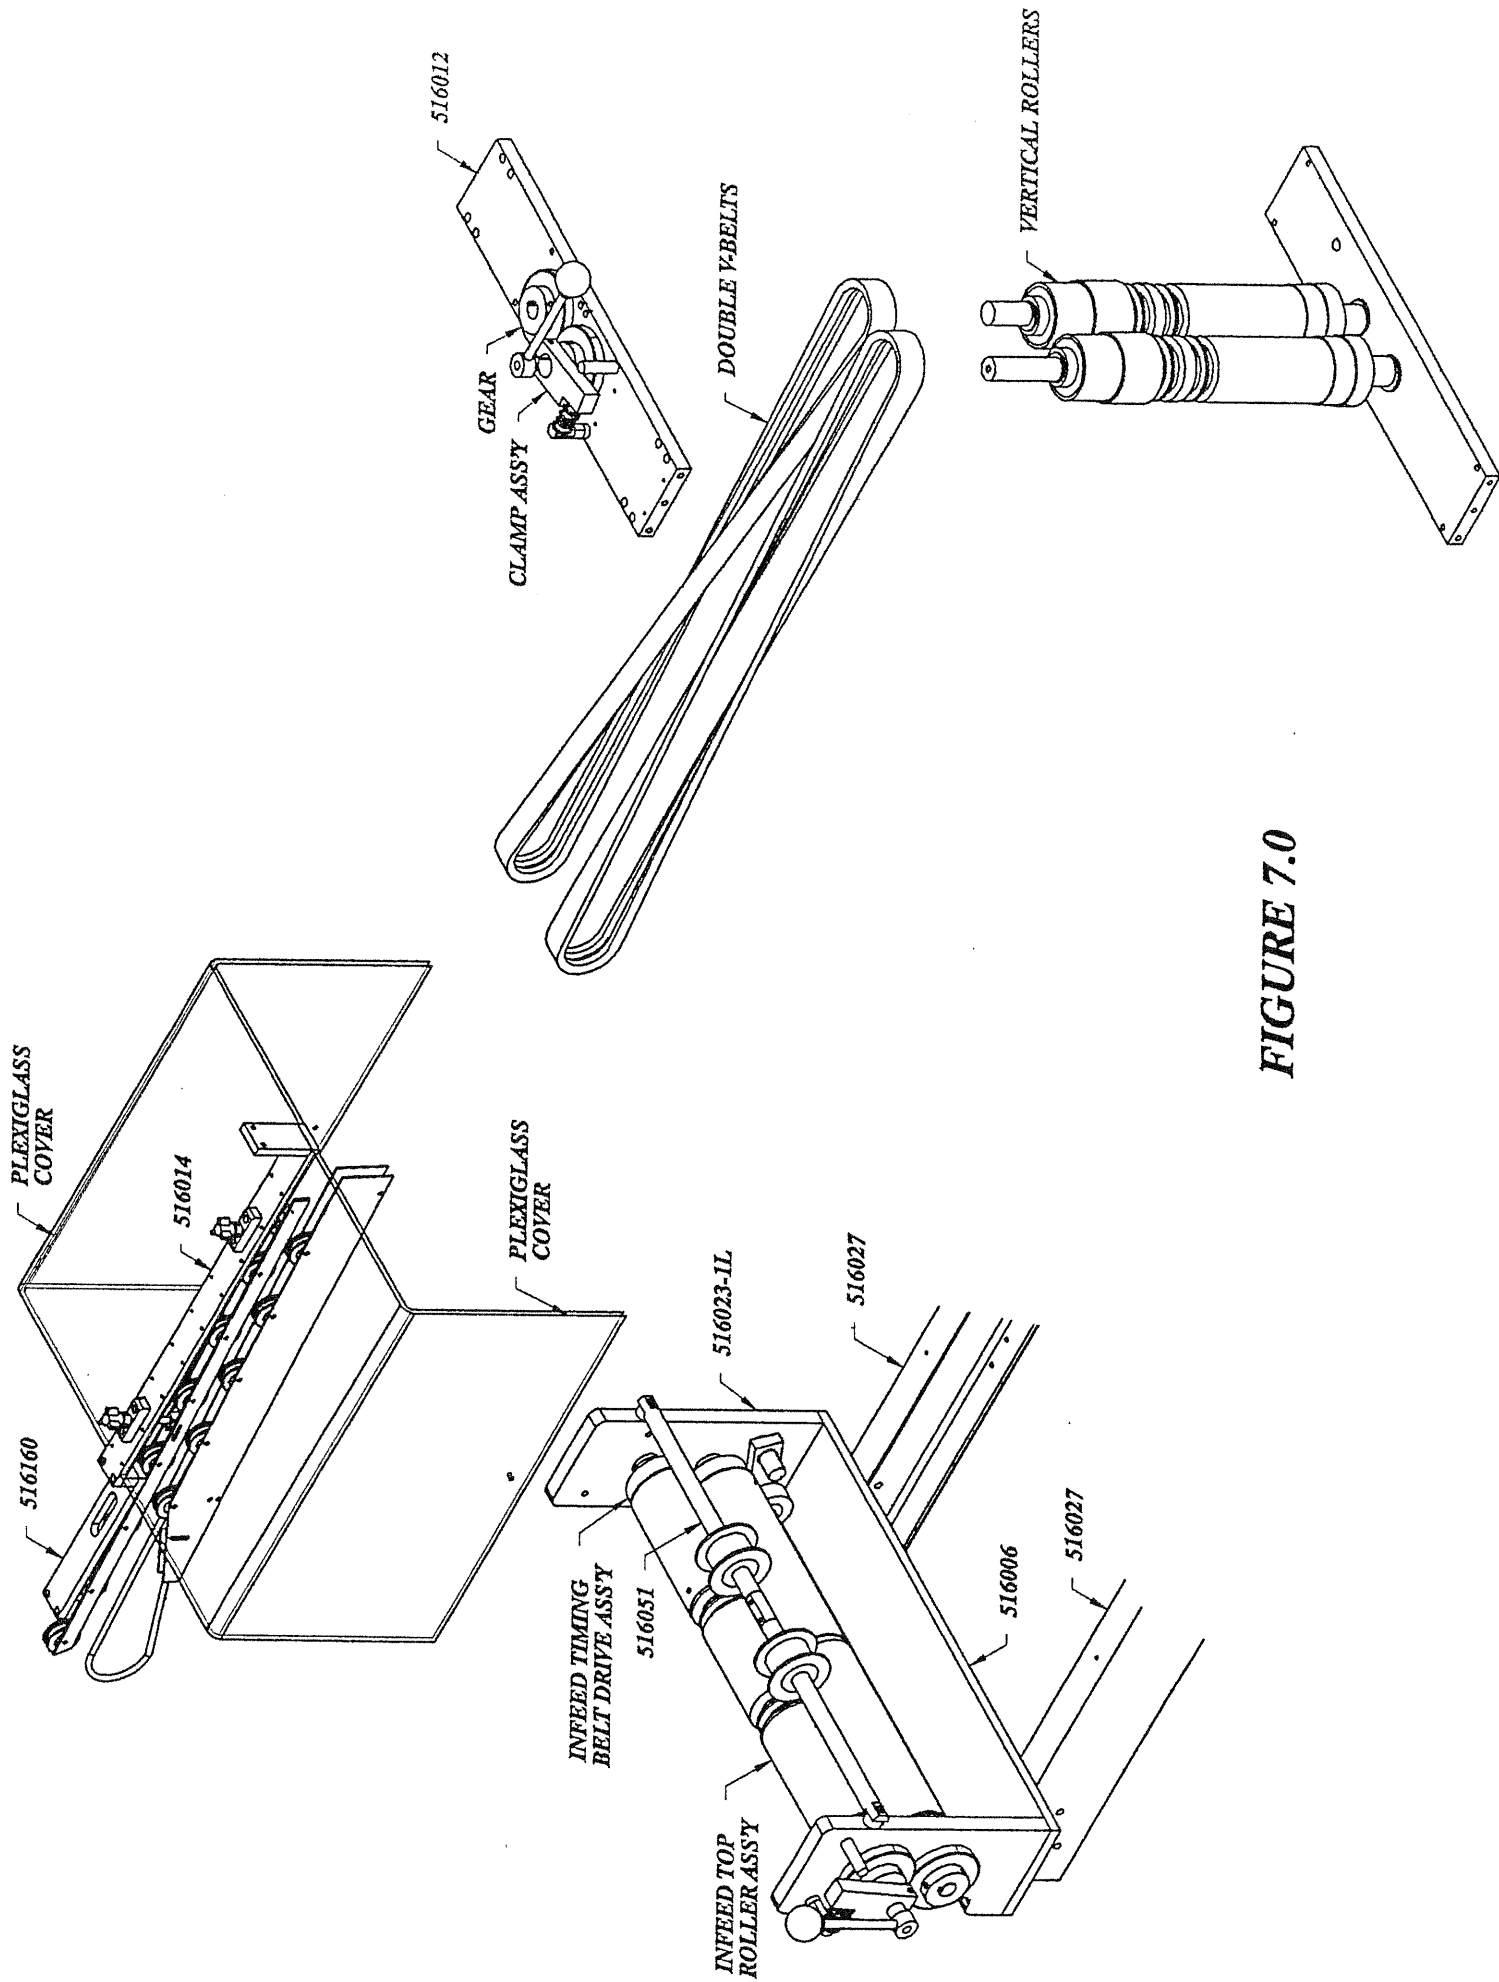

FIGURE 7.0
- a. Double V-Belts (orange). See Figure 7.0